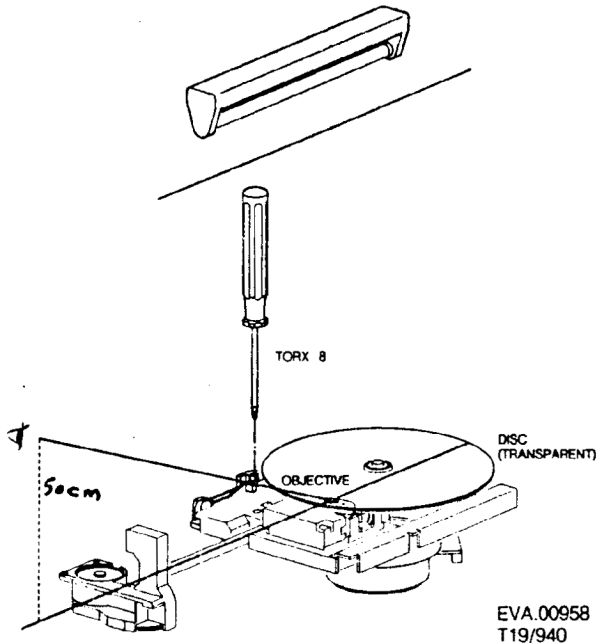

Fig. 17
- i. Now turn the CDM through 90 degrees so that the line is now parallel to the X direction, see fig. 17. Check whether the two reflections are now on top of each other again.